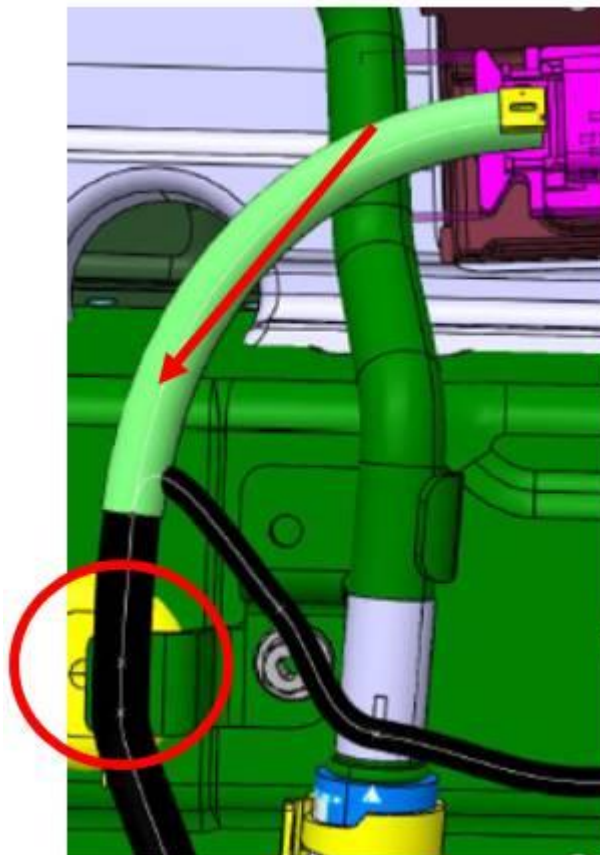

Figure 2. *Harness modification diagram.*
4. Expose and release retaining clip (see red circle in Figure 2).
5. Pull wiring harness 5 mm (see red arrow in Figure 2) away from power electronics.